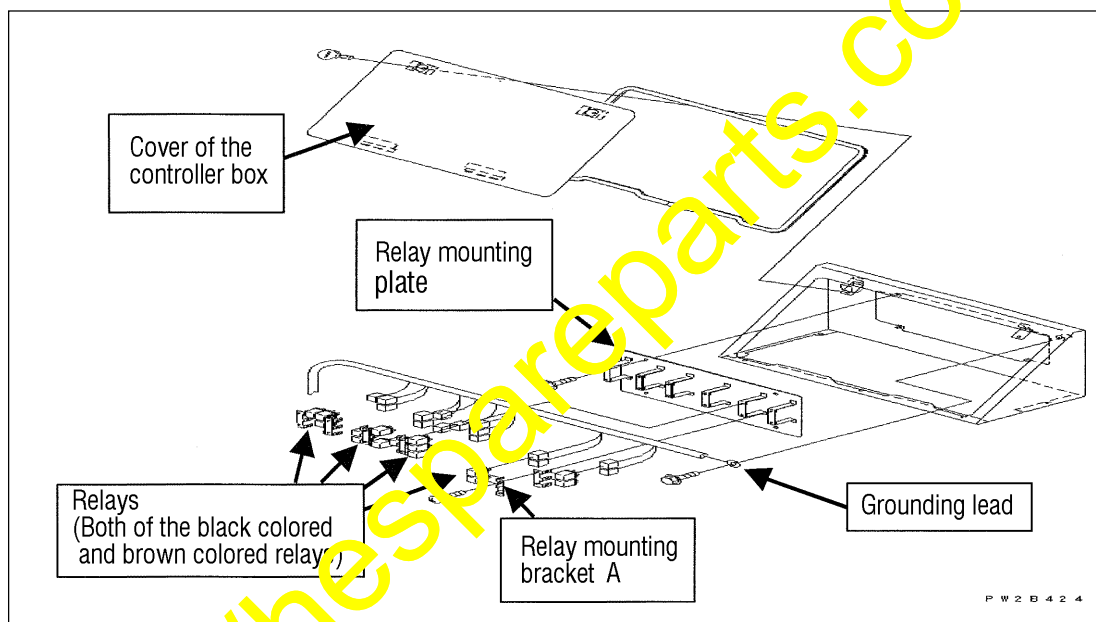

Fig. 10
- 1) Open the cover of the controller box being positioned behind the operator's seat inside the operator's cab, separate the grounding lead and remove the relay mounting plate. (Refer to Fig. 10.)
- 2) Remove all the relays except for ones for the power window and remove the relay connectors from the relay mounting bracket A. (Refer to Fig. 10.)